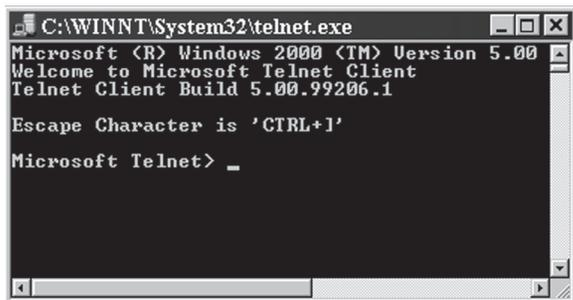

Figure 4-32 — Telnet command prompt
1. Click Start, then Run, then type in "Telnet" and click OK. The Telnet program will start (see figure 4-32).